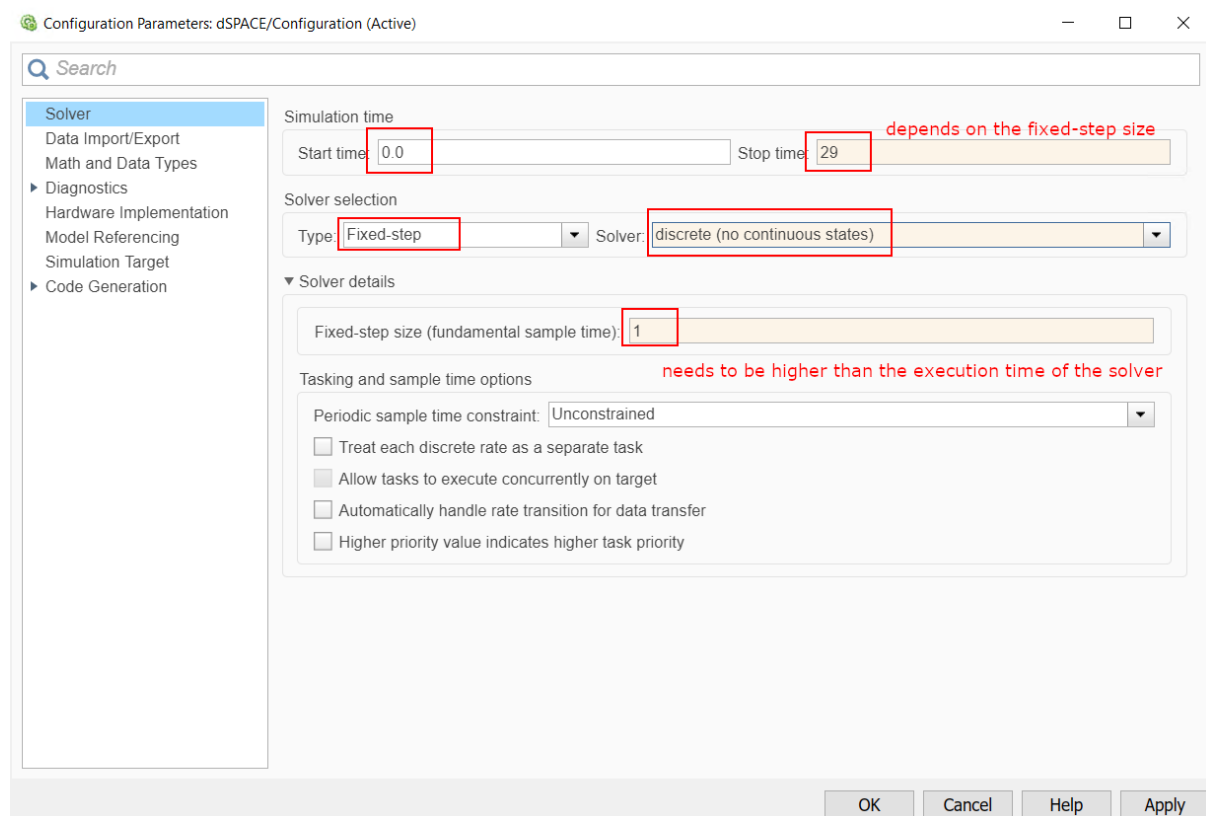

Figure 13.37: Set the Simulink solver options.
- 8) Access the Simulink model's options. In the "Solver" tab, set the options (see Figure 13.37):